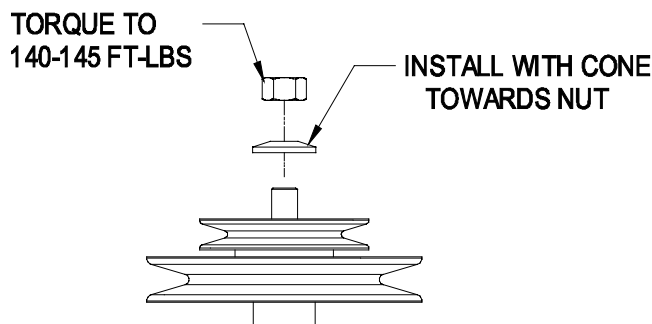

FIGURE 2
- 2.3.6 Install the jackshaft (Item 12) onto the right spindle shaft. Install the spring disk washer and nut. Torque the sheave nut to 140-145 ft. lbs. Make sure that the spring disk washer cone is installed towards nut. See Figure 2.